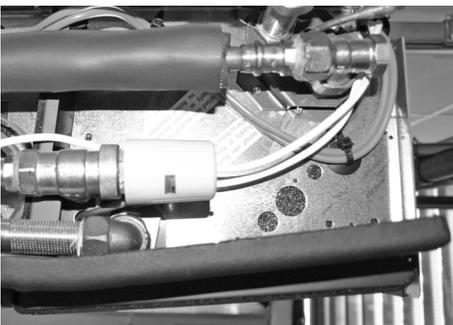

Fig. 44: Insulating with ceiling units
- When space is tight, e.g. with 4-pipe units (see Fig. 44), only continue and stick the insulation as far as the valve condensate tray).